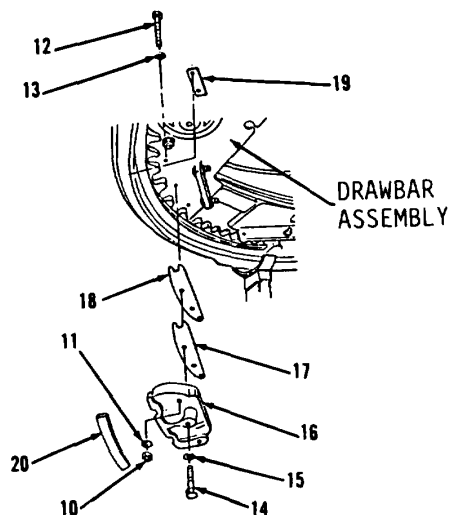

Figure 12-25.
7. Install four strips (20), eight strips (19), 28 shims (18), 24 shims (17), four shoes (16), washers (15), bolts (14), eight washers (13), bolts (12), washers (11) and lock nuts (10, Figure 12-25) in drawbar assembly.